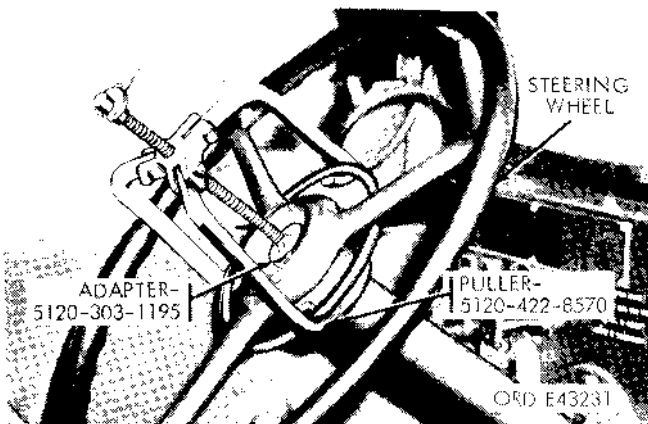

Figure 2-206. Removing steering wheel.
(3) Using a puller (fig. 2-206), remove the steering wheel from the steering shaft.